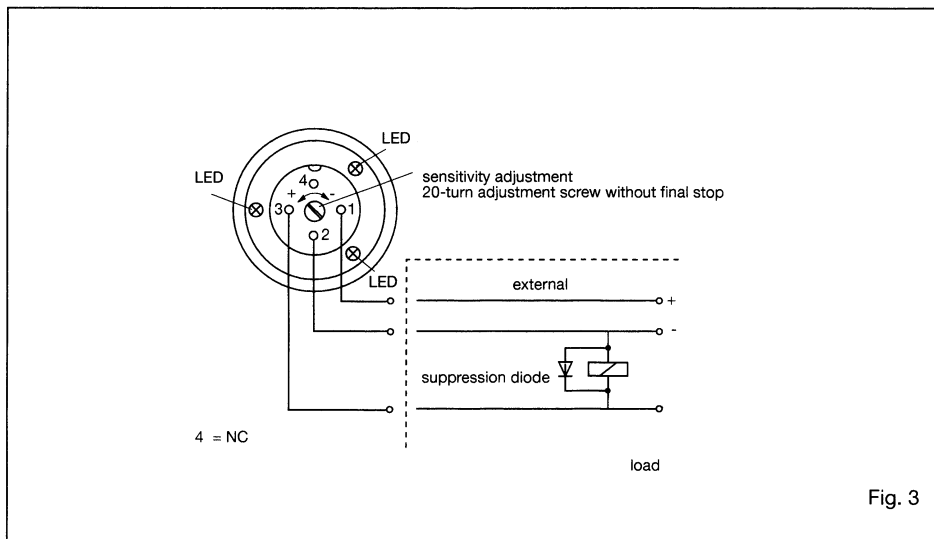

Fig. 3
4. Connect the cable to the terminal block (see fig. 3).